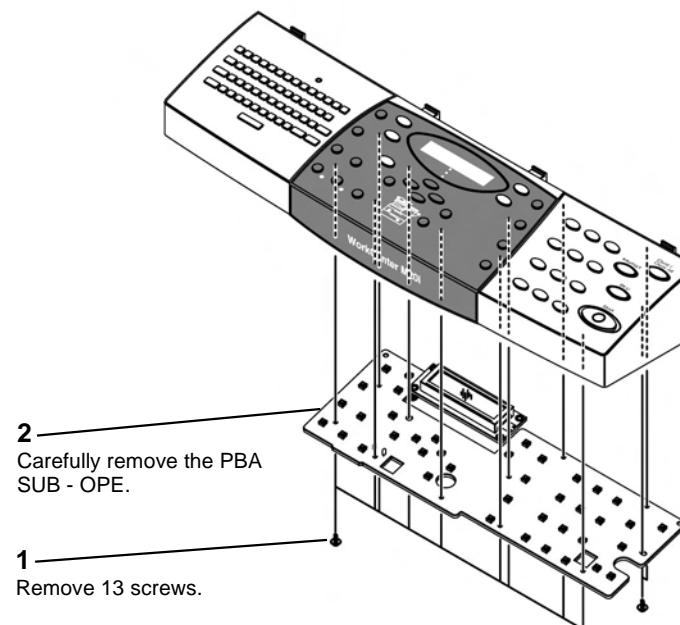

Figure 2 PBA SUB - OPE removal
3. Remove the PBA SUB - OPE, Figure 2.